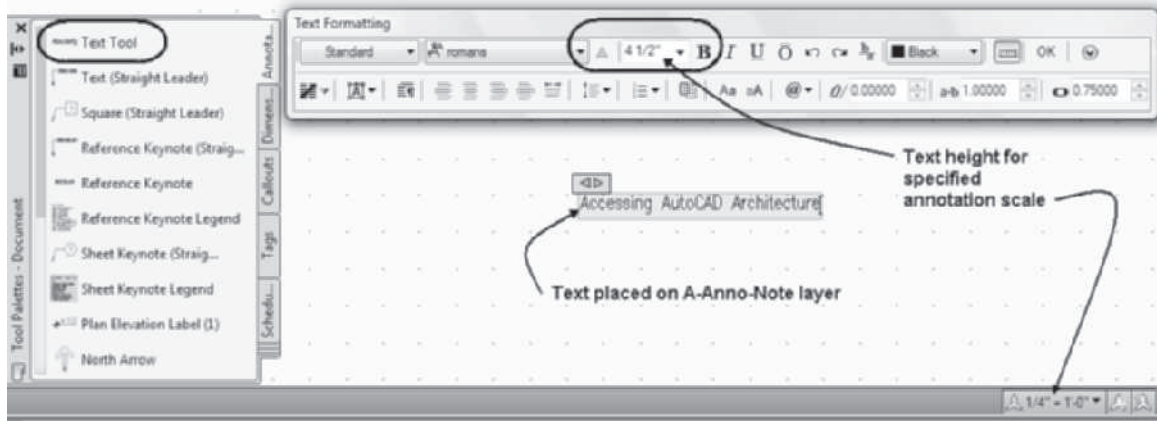

FIGURE 11.3 Text editor for placing text
The **Text Tool** tool, accessed as shown in Table 11.2, inserts Mtext scaled similarly to dimensions and leaders. The text style, font, height, and layer are preset by the command. Text is placed on the A-Anno-Note [A000T] layer. The text height is determined from the scale factor specified in **Drawing Setup**, which is multiplied by the annotation plot size of $3/32''$ [3.5]. Therefore, if you are placing text with the drawing scale set to $1/4'' = 1'-0''$ [1:50], the scale factor (48) [50] is multiplied by $3/32''$ [3.5] to obtain a text height for the scale. The Model Text Height = $4\frac{1}{2}''$ for text placed using the $1/4'' = 1'-0''$ [1:50] Annotation Scale as shown in the Properties palette of Figure 11.3.
The Mtext formatting window shown in Figure 11.3 allows you to create paragraph-style text and modify the style, font, and text height. The Display menu within the text window allows you to change the justification and case. The Symbol option of the Display menu provides access to special characters. After text is placed, you can double-click the text to open the **Text Formatting** toolbar and editor.
Tool palette	Select Text (Straight Leader) from the Annotation palette, as shown in Figure 11.3.